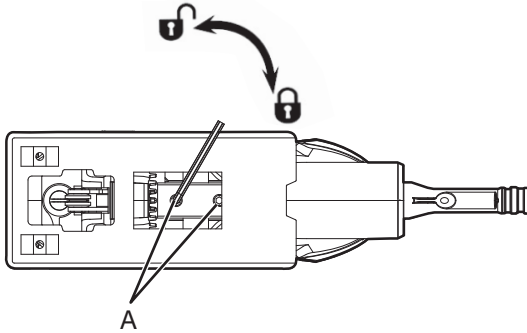

FIG.4
1. The soleplate can be adjusted 45° (left or right) in relation to the saw direction to facilitate contour sawing. Loosen the two clamping screws (A) under the soleplate by the aid of inner hexagon spanner supplied with the tool, adjust the soleplate to the desired angle and retighten the screws (A). (See Fig. 4)